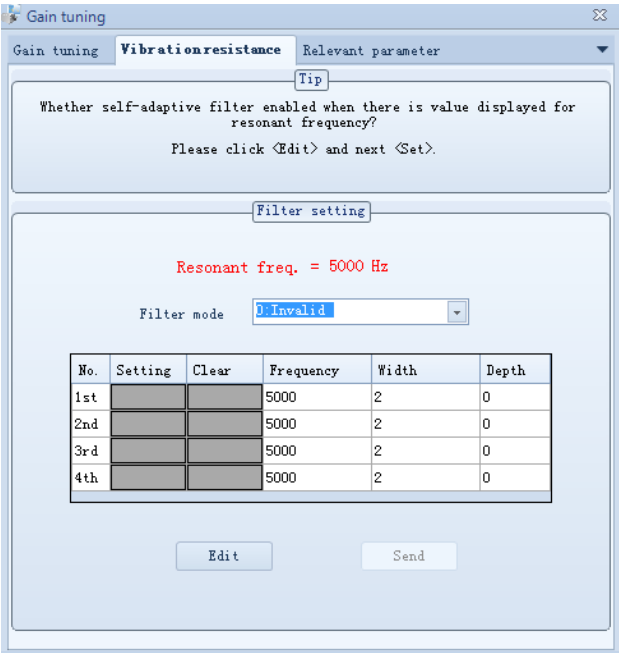
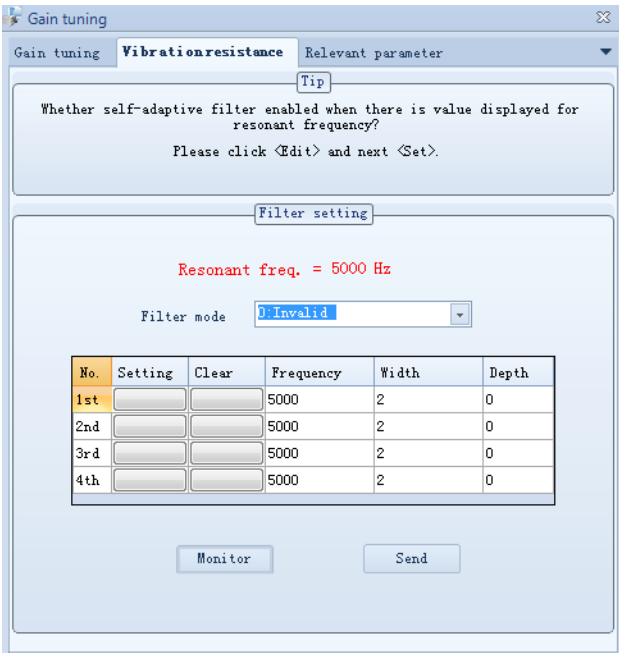

Fig. 5-2 Vibration resistance window (Monitor mode)
Fig. 5-3 Vibration resistance window (Edit mode)
Click “Gain → Vibration resistance” to open the “Vibration resistance” window. When the button is displayed as “Edit” as shown in Fig. 5-2, it means the current window is in monitoring mode; when the button is displayed as “Monitor” as shown in Fig. 5-3, it means the current window is in editing mode.
- When "Filter mode" is set to "1: 1 valid" or "2: 2 valid", the resonance frequency which can be set automatically will be shown in the window as shown in Fig. 5-2, without other operations.
- When "Filter mode" is set to "3: Resonance frequency test mode", you can click the boxes in "Setting" column, as shown in Fig. 5-3, to set the resonance frequency displayed on the current window to 1st~4th notch filters.
- Open "Vibration resistance" window and click "Edit" to enter into editing interface (See Fig. 5-3). Input the values read from speed spectrum into the box in "Frequency" column. Then click "Set" and "Send" to validate the setting.
- Click boxes in "Setting" column as shown in Fig. 5-3 to directly set the current frequency as resonance frequency without inputting any value in the target box.